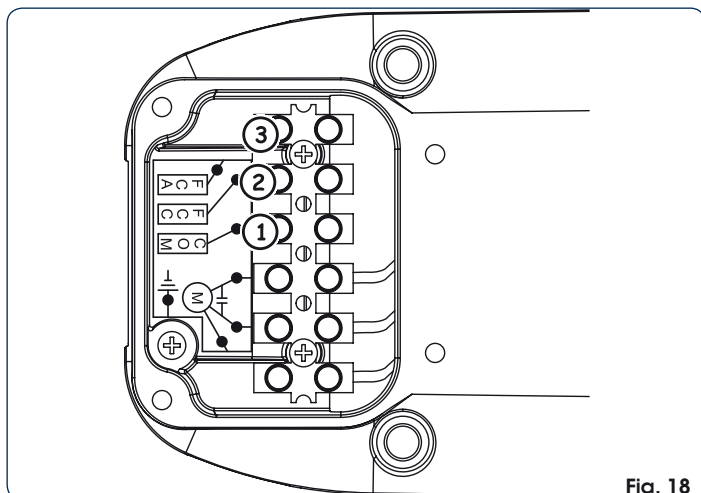

Fig. 18
3. Insert the cable and connect it to the terminals observing the colours specified in the following table (with redo Figure 18).